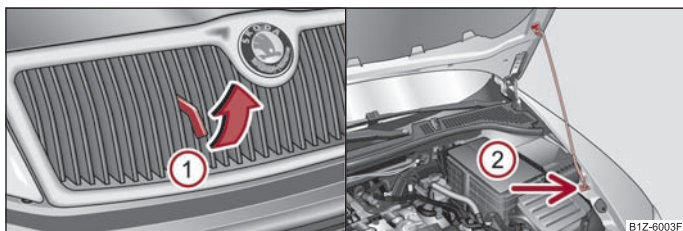

Fig. 13 Radiator grille: Release lever/securing the bonnet with the bonnet support
- Pulling on the release lever in direction of arrow ① ⇒ fig. 13 will unlock the bonnet.
- Take the bonnet support out of its holder and set it in the opening ② on the bonnet.